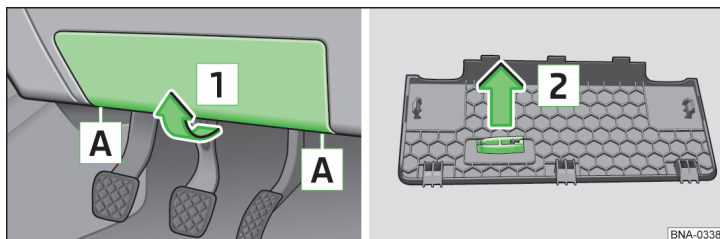

Fig. 102 Removing the fuse box cover/plastic clip for fuses
- Grip the fuse box cover at point **A** and remove it in the direction of arrow **1** » fig. 102.